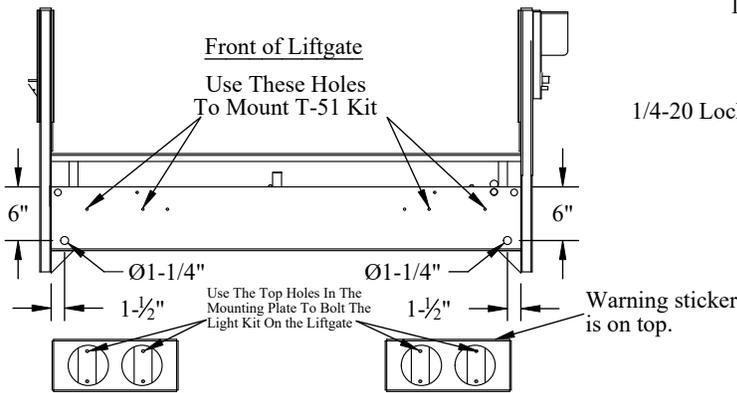

Figure 15: Light kit assembly location.
Note: If this light kit is being installed on an older liftgate with smaller access holes or no holes at all, two 1-1/4" diameter holes must be drilled in the locations shown (Figure 15).
16. **Bolt** the light kit to the liftgate using the supplied 1/4-20x3/4" bolts and 1/4-20 lock nuts (Figure 15).
Make sure that no wires are pinched between the kit and the liftgate and that the warning sticker is facing up (Figures 15 to 17).